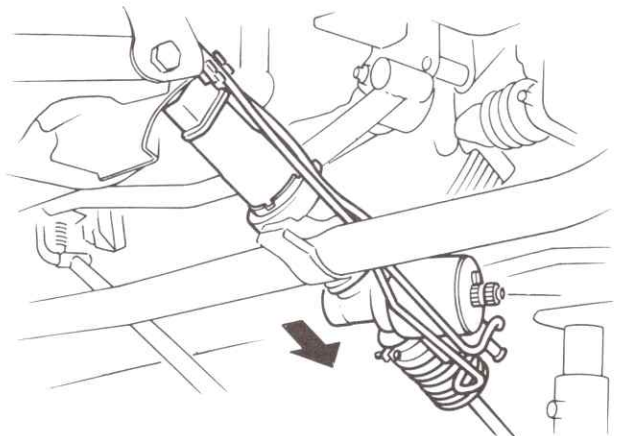

Fig. 10.19 Removing a power-assisted steering rack (Sec 12)
- 9 Withdraw the steering gear from under the front wing, moving it in the direction of the arrow as shown in the diagram (Fig. 10.19).